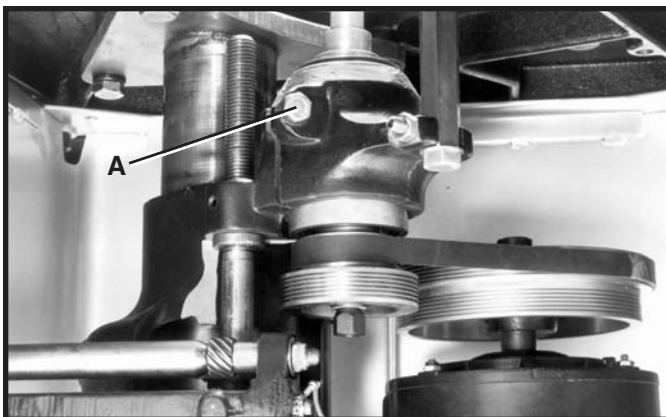

Fig. 71
1. **IMPORTANT:** When replacing the spindle cartridge, bolt (A) Fig. 71, should only be tightened 7 to 10 foot pounds.